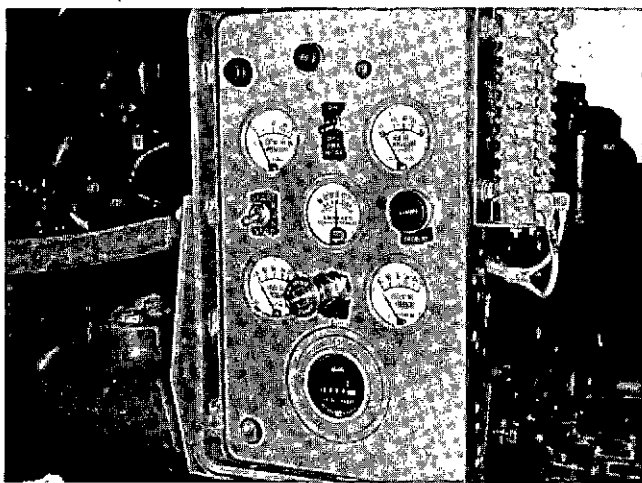

Fig. 0-3, V40083. Control panel
1. Disconnect and tag all wires at control panel and termination points. Fig. 0-3.